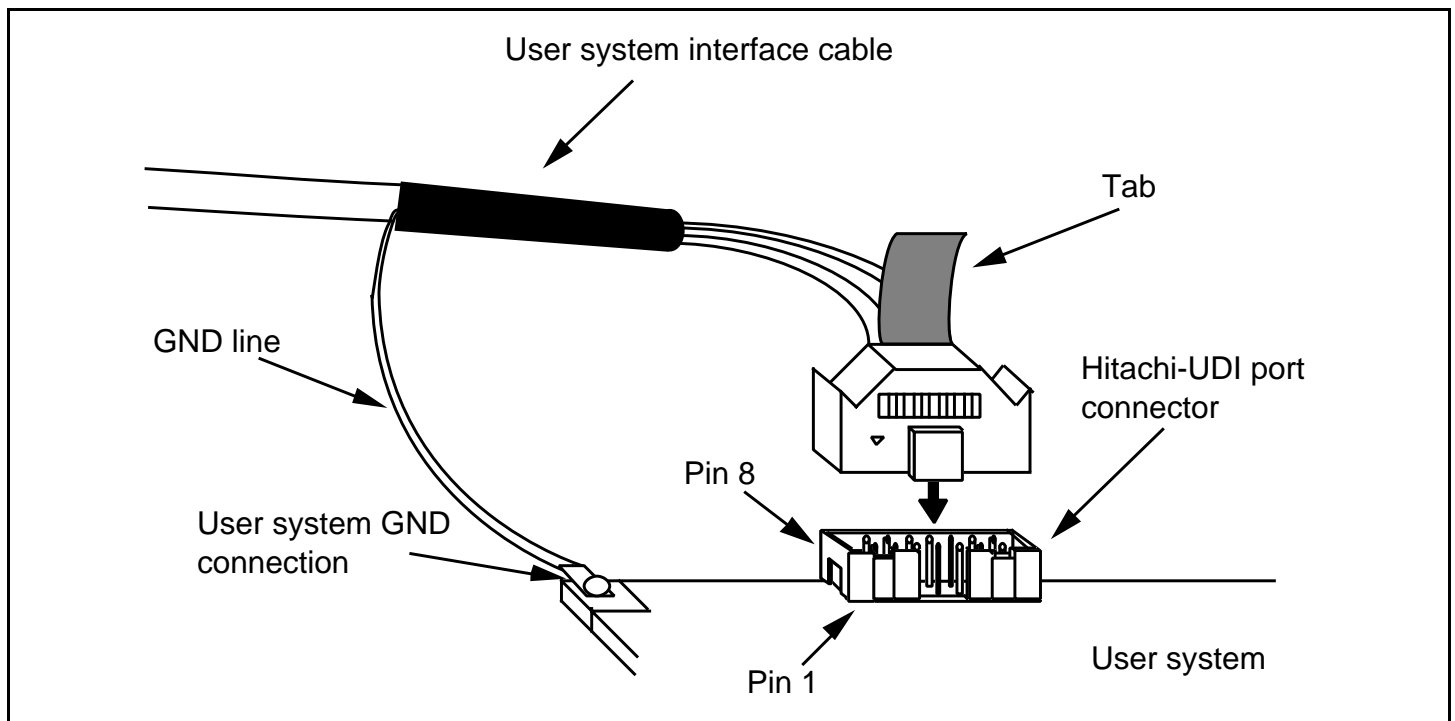

Figure 2.4 Connecting the User System Interface Cable to the User System when the 14-pin Straight Type Connector is Used
(2) Note that the TDO signal of the user system interface cable connector must be connected to the TDI pin of the Hitachi-UDI port connector and the TDI signal of the user system interface cable connector must be connected to the TDO pin of the Hitachi-UDI port connector. Section 6.2 shows the pin arrangement of the Hitachi-UDI port connector.
(3) Figure 2.4 shows how to connect the user system interface cable to the user system when the 14-pin straight type connector is used. Connect the ground line of the cable to the user system ground. The end of the ground line has a hole having a diameter of 3 mm, and therefore, when the ground line is screwed to the user system, the screw diameter must be 3 mm.